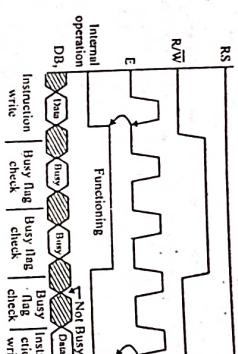

Fig. 2
The minimum interface between a computer and a peripheral, requires three line pins 2, 3, and 7, as shown in fig. 1(a). These lines are defined in relation to the DTE, the terminal transmits on pin 2 and receives on pin 3. On the other hand, the DCE transmits on pin 3 and receives on pin 2. Now the dilemma is, How does a manufacturer define the role of its equipment? For example, the user may connect its microcomputer to a serial printer configured as a DTE. Therefore, to remain compatible with the defined signals of the RS-232C, the RS-232 cable must be reconfigured as shown in fig. 2(b). In figure 2 the microcomputer is defined as DTE, and it can be connected to the modem, as shown in without any modification in the RS-232 cable, as shown in fig. 2(a). However, when it is connected to the printer, the transmit and the receive lines must be crossed as shown in fig. 2(b), this is known as a null-modem connection.
Fig. 2 : (a) RS-232C Connections DTE to DCE and (b) DTE to DTE. Typically, data transmission with a handshake requires eight lines. Listed in Table 1. Specific functions of handshake lines differ in different peripherals and, therefore should be referred to in the manufacturers' manuals.
Fig. 2 : (a) RS-232C Connections DTE to DCE and (b) DTE to DTE. The same standard is used for communication between computers and peripherals and the roles of a data terminal and a modem have become ambiguous. The lines used for transmission and reception will differ, depending on the manufacturer's role definition of its equipment.
- Timing diagram (fig. 2) shows that after selection of a register (R and DR) by RS, the  $\overline{RD}$ -signal is asserted and enable signal is pulsed low-high-low.